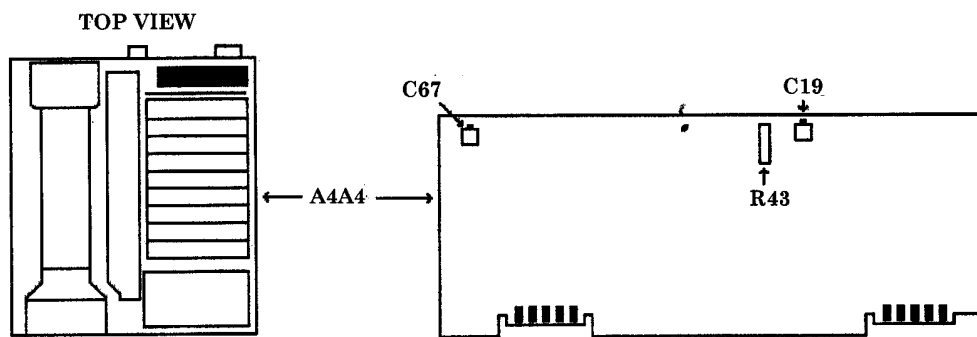

Figure 17. A4A4 board.
(68) Adjust A4A4C67 and A4A4C19 (fig. 17) for maximum level as indicated by TI indication.
(72) Adjust A4A4R43 (fig. 17) to align markers on TI display. **MKR Δ** level should indicate 1.00X.